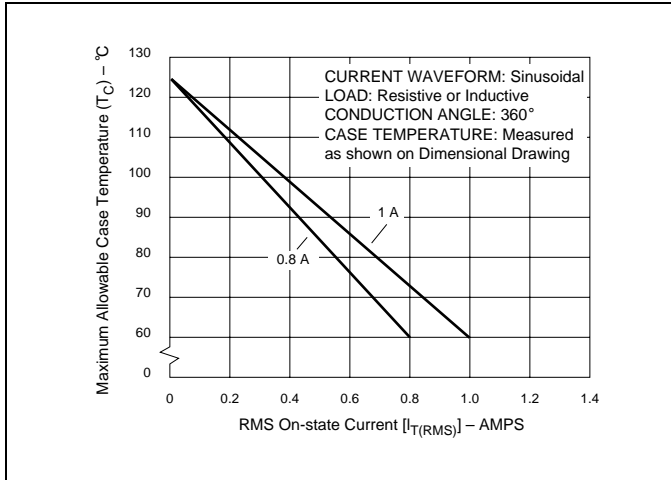

Figure E2.1 Maximum Allowable Case Temperature versus On-state Current (0.8 A and 1 A)
- See Figure E2.1 through Figure E2.7 for current rating at specific operating temperature.
- See Figure E2.1 through Figure E2.6 for maximum allowable case temperature at maximum rated current.